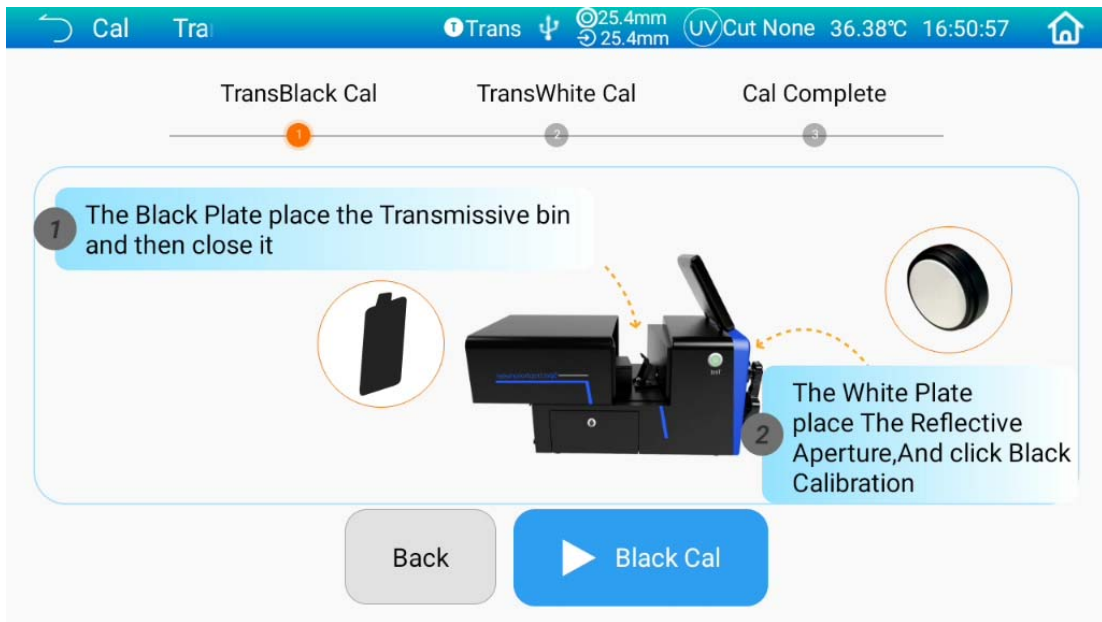

Figure 6 Transmissive Black Calibration
3. It will automatically enter White Calibration after Black Calibration is finished as shown in Figure 6. Place well white plate (the same step as how to place black cavity), then press measuring button to start white calibration, or click "←" to cancel and quit the white calibration.